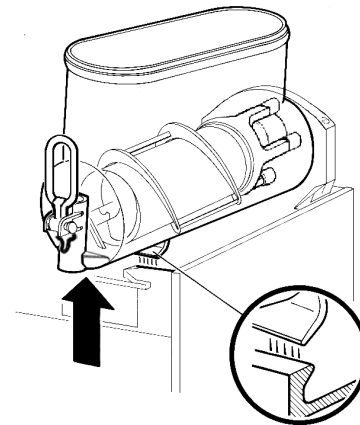
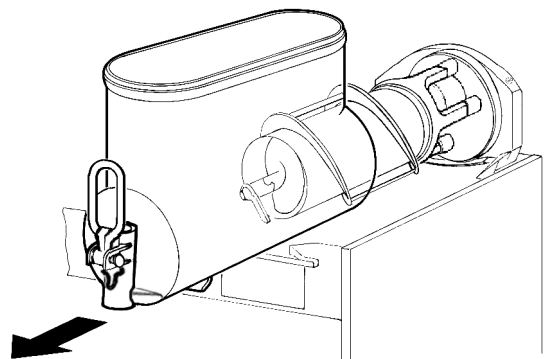

figure 5
figure 6
**2** Remove the bowl by lifting its faucet side up and off the fastening hooks (see figure 5) and slide it out (see figure 6).